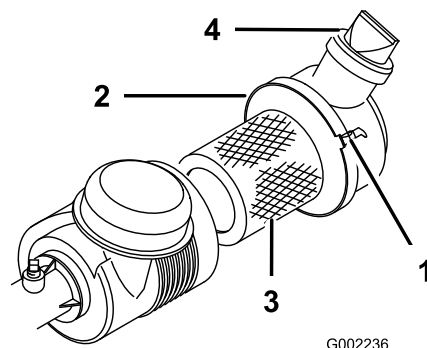

Figure 38
Check the air cleaner body for damage that could cause an air leak. Ensure that the dust cap is tightly sealed onto the air cleaner. Replace a damaged air cleaner body. Squeeze the valve (Figure 38) before each use to clear it of dust and debris. Service the air cleaner filter every 100 hours.
3. Loosen the air cleaner strap that secures the air cleaner cover to the air cleaner body (Figure 38) and separate the cover from the body.
7. Secure the straps (Figure 38).
4. Install the cover with the valve pointing down and secure the straps (Figure 38).